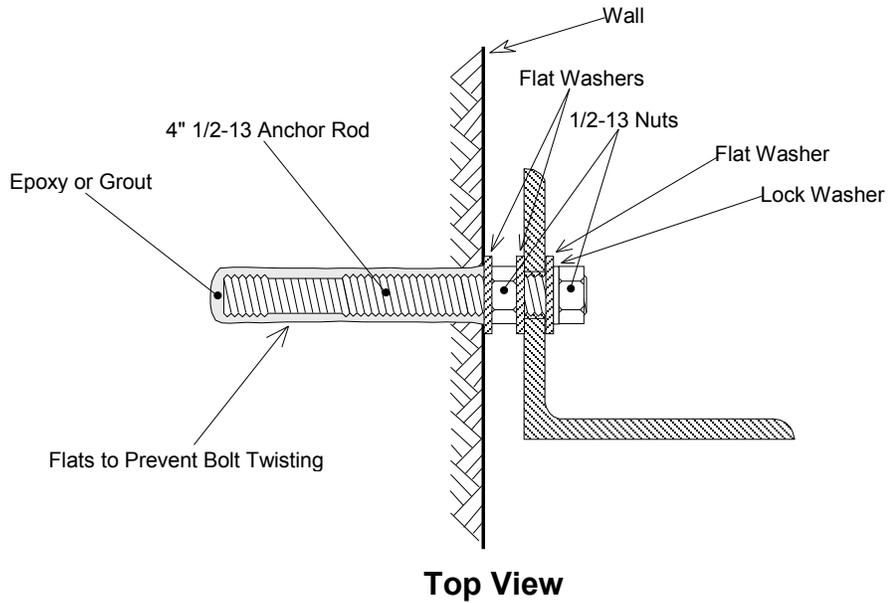

Figure 5 - Anchor Rod (Uniaxial Mounting Bracket Shown)
- 7) After setting, attach the mounting bracket to the bolt using the supplied hardware as illustrated in Figure 5.